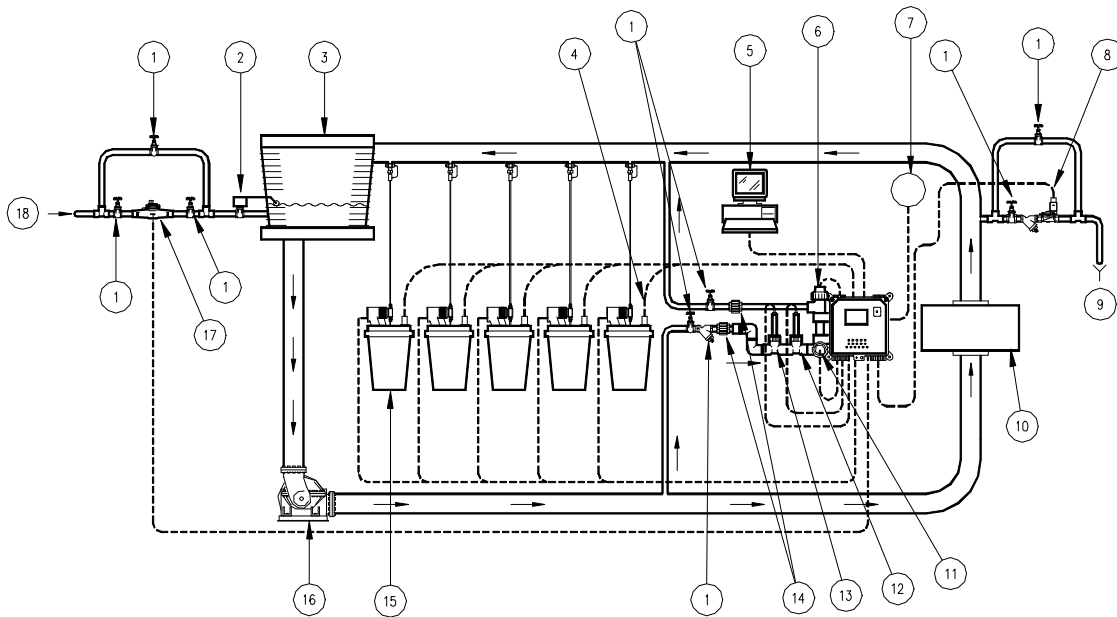

Figure 3 – Typical Installation Cooling Tower
1. Install sensors{ XE "sensors" } or sample stream flow assembly at some point before chemical injection points where chemical and water are thoroughly mixed (see *Figure 3*).